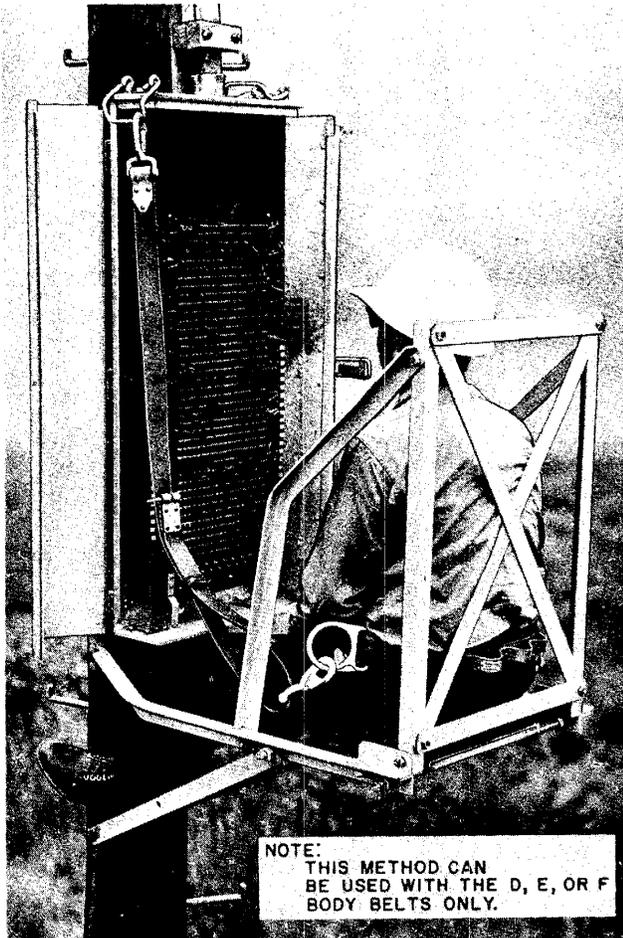

Fig. 12—Method of Using D, E, or F Body Belt With Safety Strap on B-Type Cross-Connecting Terminal
4.06 The D, E, or F Body Belt should be used at B-type cross-connecting terminals as shown in Fig. 12.